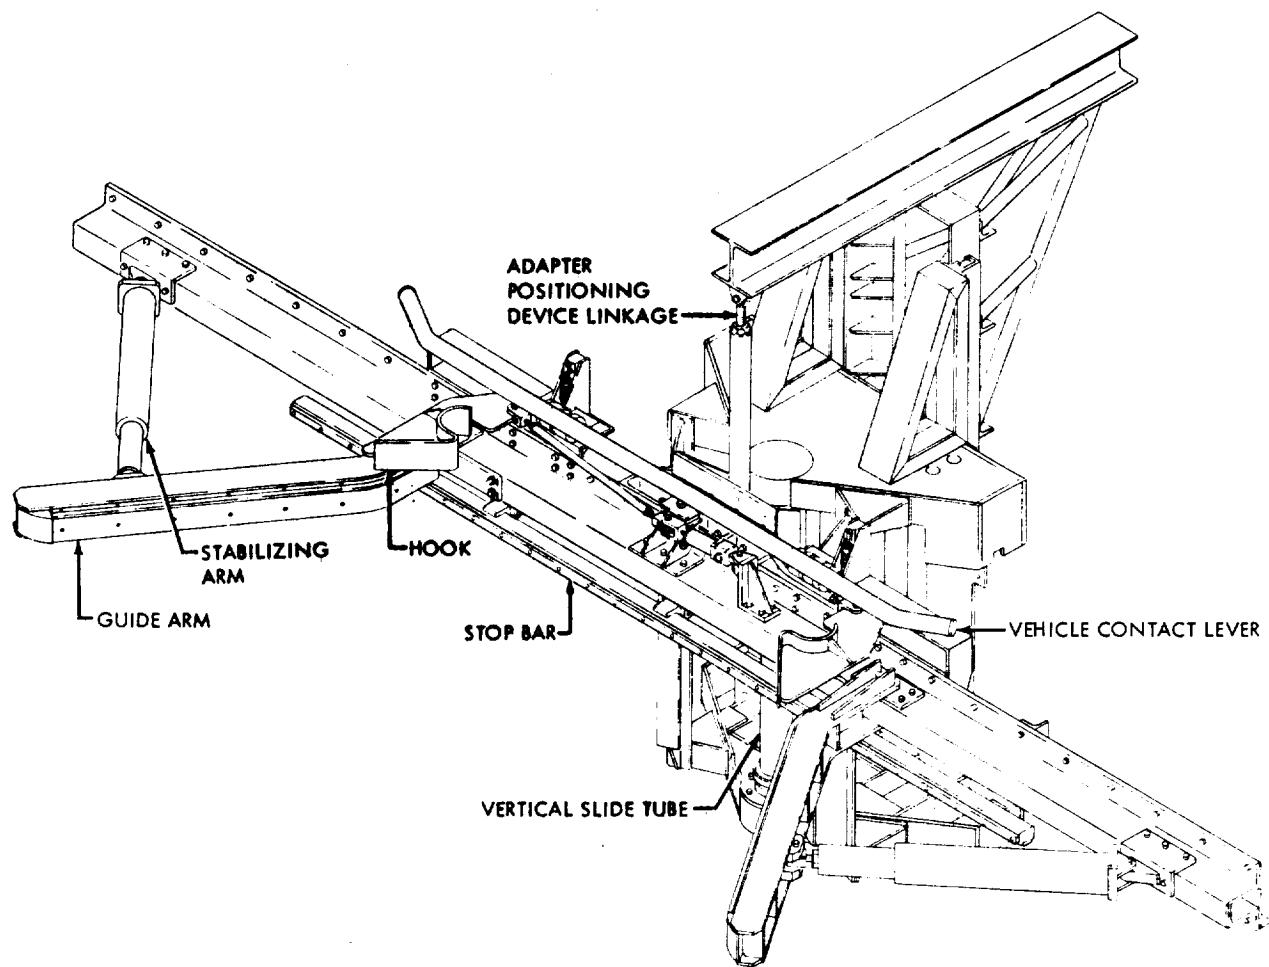

Figure 1-3. LES Coupler Assembly
1.2.3.1 LES Coupler Assembly. The LES coupler assembly (Figure 1-3) positions and holds the hood adapter in physical contact with the Command Module. Horizontal positioning is accomplished mechanically by the guide arms. Vertical positioning is accomplished by a pneumatic actuator with a 21.50 inch stroke. The hooks of the LES coupler are pneumatically opened, spring-loaded closed, and hold the hood adapter in position at the access hatch in the Command Module by grasping the legs of the LES tower. A mechanical actuator and negotiator spring on opposite ends of the top of the extension platform frame serve to mechanically center the LES coupler assembly whenever the extension platform is retracted. The LES coupler assembly is commonly referred to as the adapter positioning device or APD.